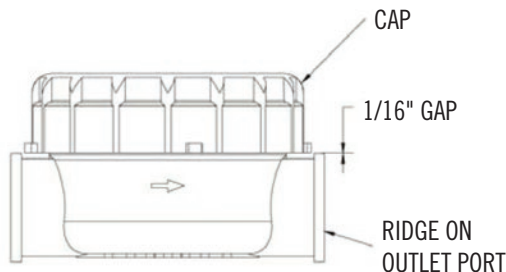

FIGURE 6
5. Thread on meter cap until hand tight. To check tightness, there should be approximately 1/16" gap between cap and ridge on outlet port. (See Figure 6).